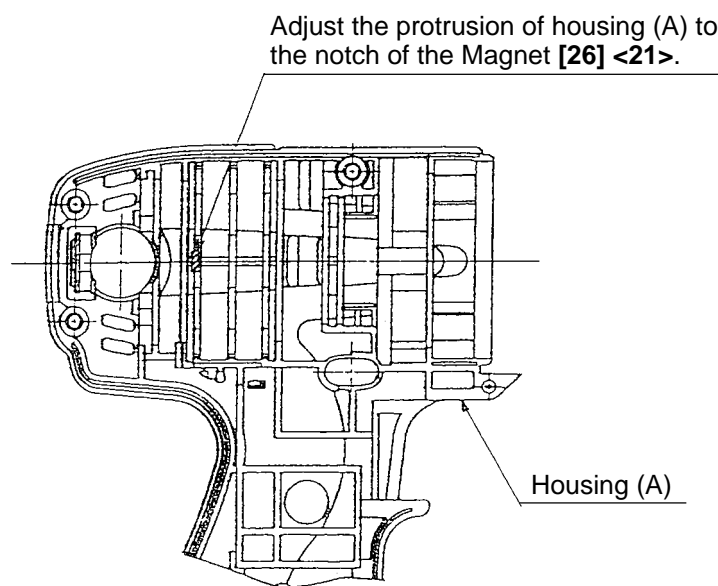

Fig. 12
(c) Mount a unit of the Inner Cover [24] <19>, Magnet [26] <21> (including the Dust Guard Fin [27] <22>) and the Brush Block [28] <23> to housing (A) (see Fig. 12). Pay attention to the following items.